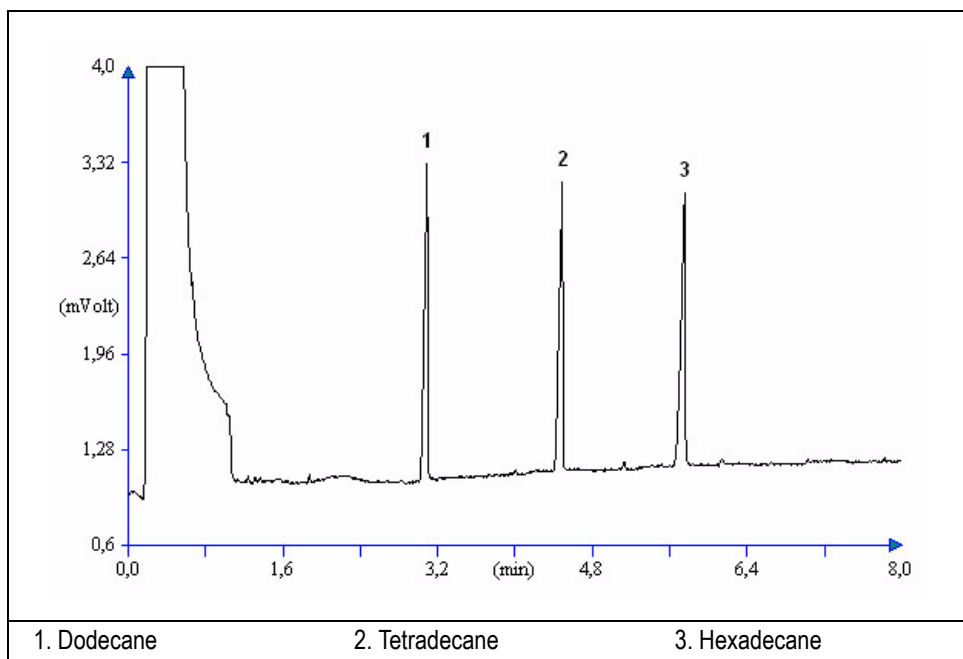

Figure 27-1. TCD-PPKD Injection
14. Inject the test mixture and press **START** on the GC to begin the checkout run. The resulting chromatogram should look like the one shown in *Figure 27.1*